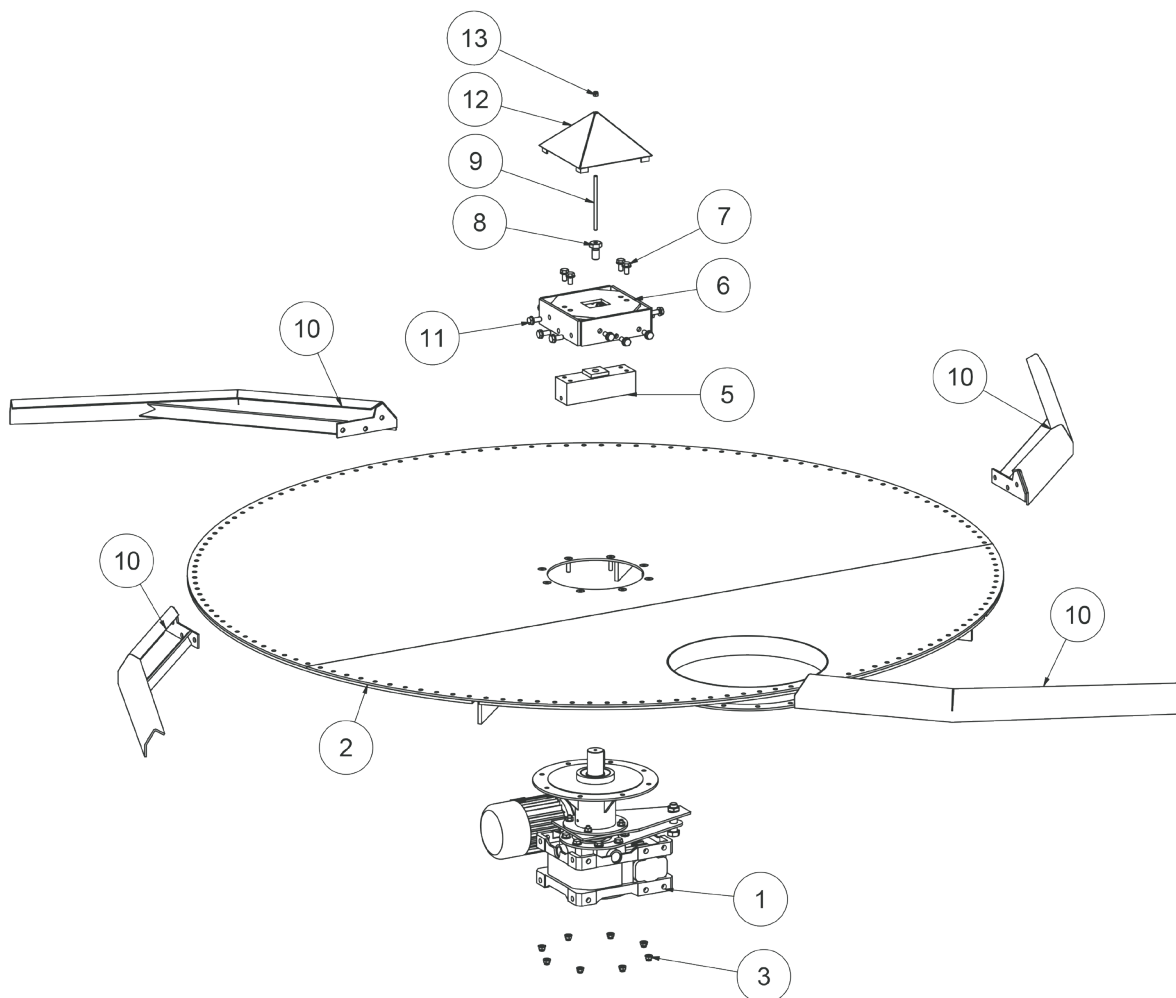

Fig. 02
See Fig. 02. Fit the motor/hub unit (1) to the base plate (2) and secure with nuts and bolts (3). Place the hub part (5) on the axle from the motor (1). (Do not forget to adjust the lock pin on the motor assembly – it uses the tongue and groove principle). Fit the hub part onto the outside of the hub (6) using 4 bolts (7).